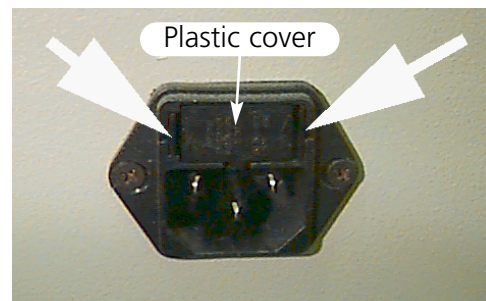

Figure 4-28
2. Directly above where the power cord plugs in is a small plastic cover (see Figure 4-28). Use your fingernails to unclip each side of this cover in the locations shown in Figure 4-28.